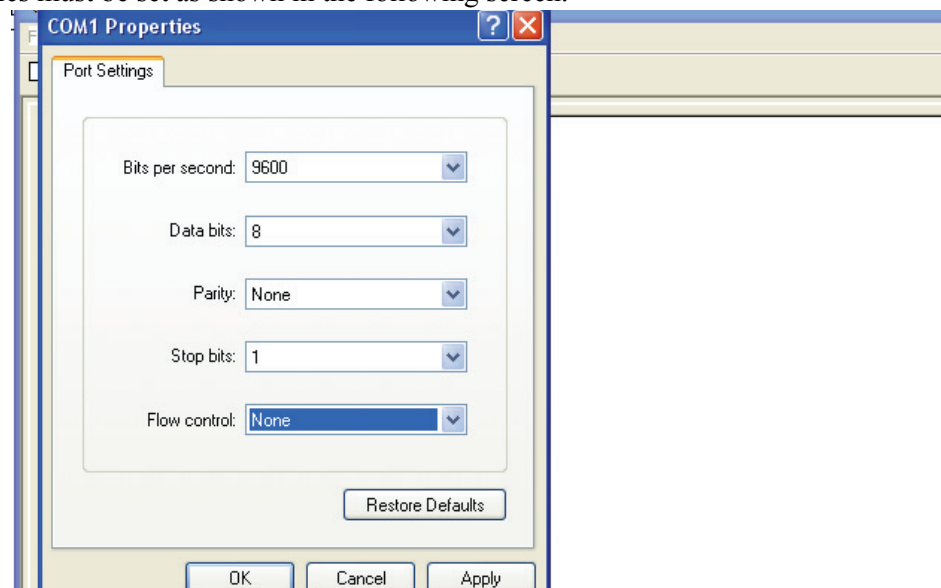

Figure 9. Comm Port Properties Screen
5. Reset the WLAN option card by pressing the manual reset button, and immediately upon release enter three lowercase x characters (xxx) at the same time. The manual reset button location is shown in Figure 9.